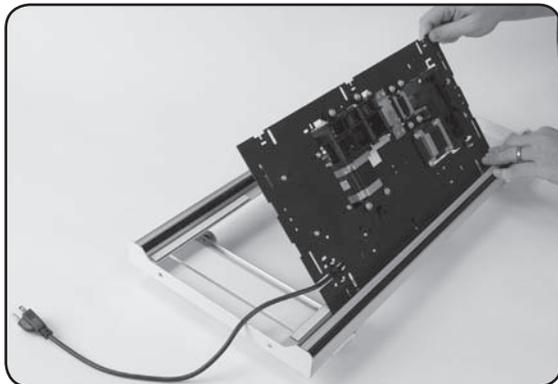

Fig 1-3
Step 1-1: Insert the QuiltMotion plate into the bottom carriage plate at an angle as shown in Fig 1-3.